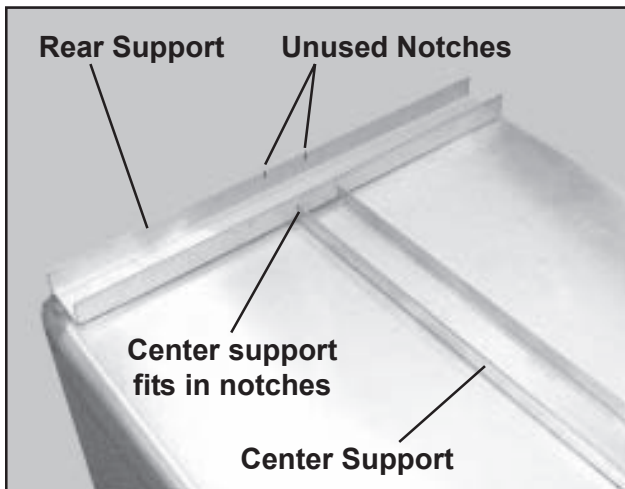

Figure 20. Rear and Center Supports on a Tier 1 Cage
10. Fit the other end of the center support into the notches in the rear support and center the rear support on the cage, left-to-right (Figures 20 and 21).